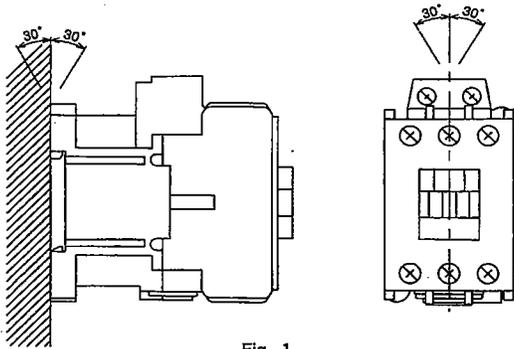

Fig. 1
- (1) Mount in a dry, clean and stable location.
- (2) Mounting on a vertical surface. The product must not incline more than 30° (Fig.1)